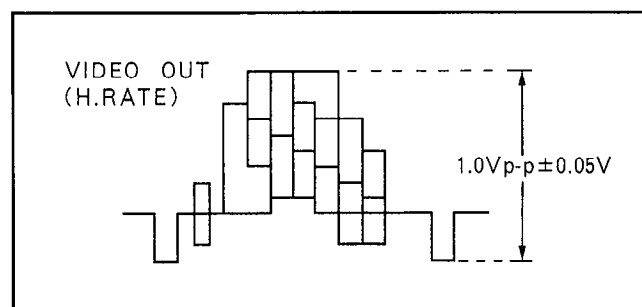

Fig. E6
2. Adjust VR30006 so that Y level is $1.0\text{V} \pm 0.05\text{Vp-p}$. (Refer to Fig. E6)